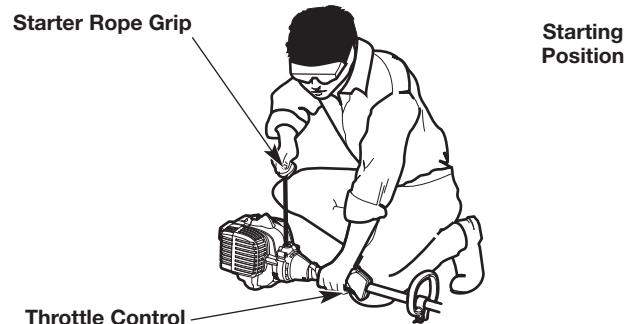

Fig. 14
**WARNING:** Avoid accidentally starting the unit. To avoid serious injury, the operator and the unit must be in a stable position when pulling the starter rope (Fig. 14).
3. Crouch in the starting position (Fig. 14).
5. Pull the starter rope with a controlled and steady motion **5 times** (Fig. 14).